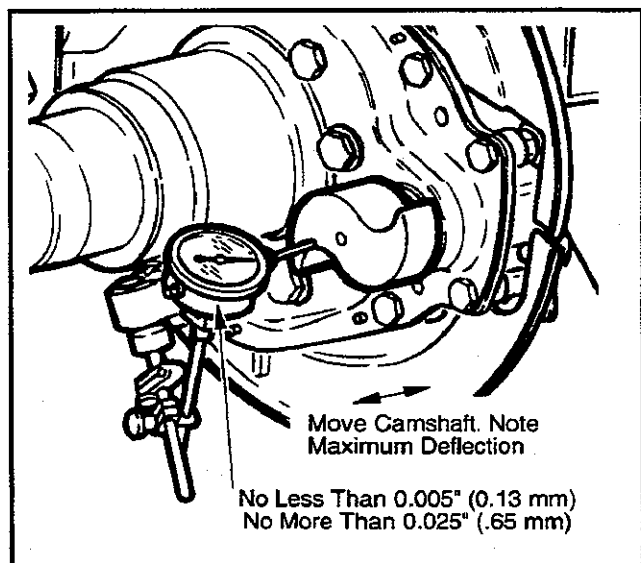

Figure 23—Mount Dial Indicator
14. Mount a dial indicator with head plunger. (See Figure 23—Mount Dial Indicator.)